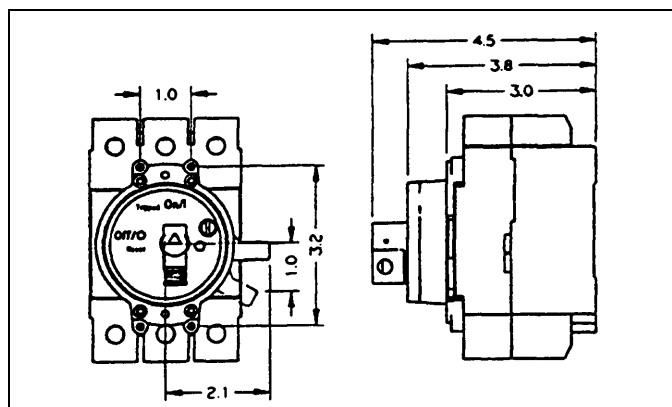

Fig. 2.1 G-Frame Rotary Handle Outline Dimensions
1. Calculate and fabricate the hat plate from the figure below. After the hat plate is made, drill or tap the #6 - 32 screws to mount the handle mechanism and circuit breaker. Refer to Fig. 2.1 for mounting hole dimensions.